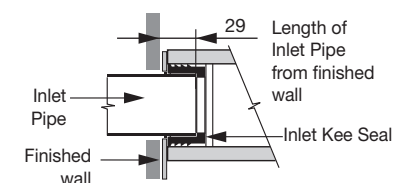

Fig. 4
- 4- Set the Inlet Pipe to 29mm from the finished wall, as detailed in **Fig. 4**.